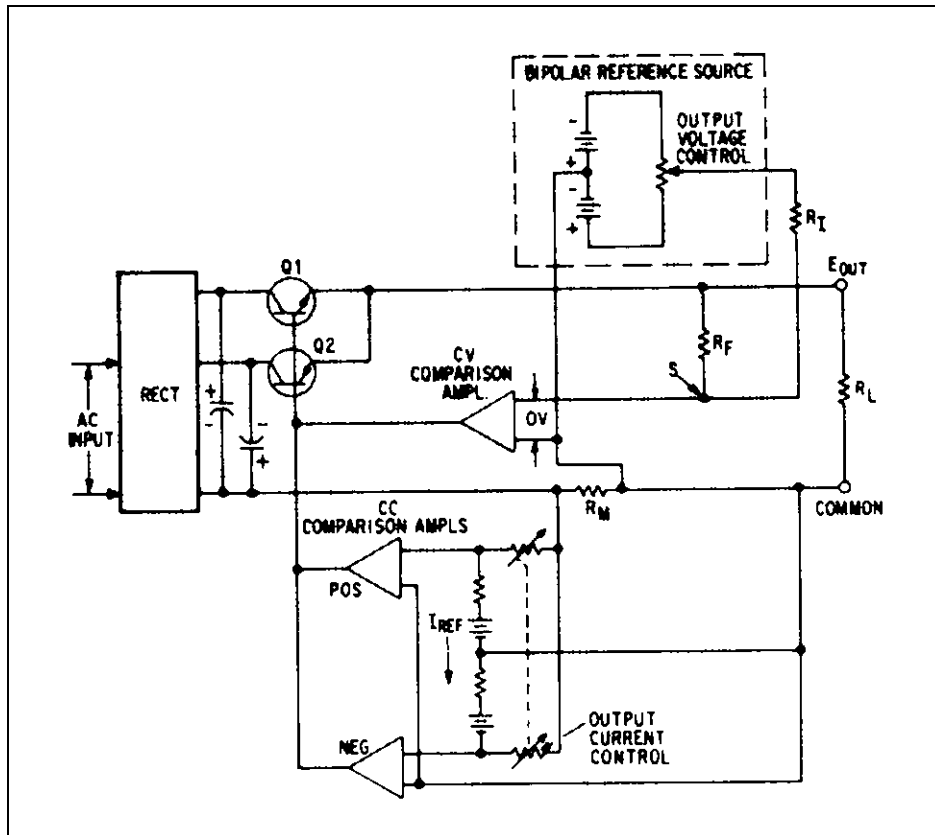
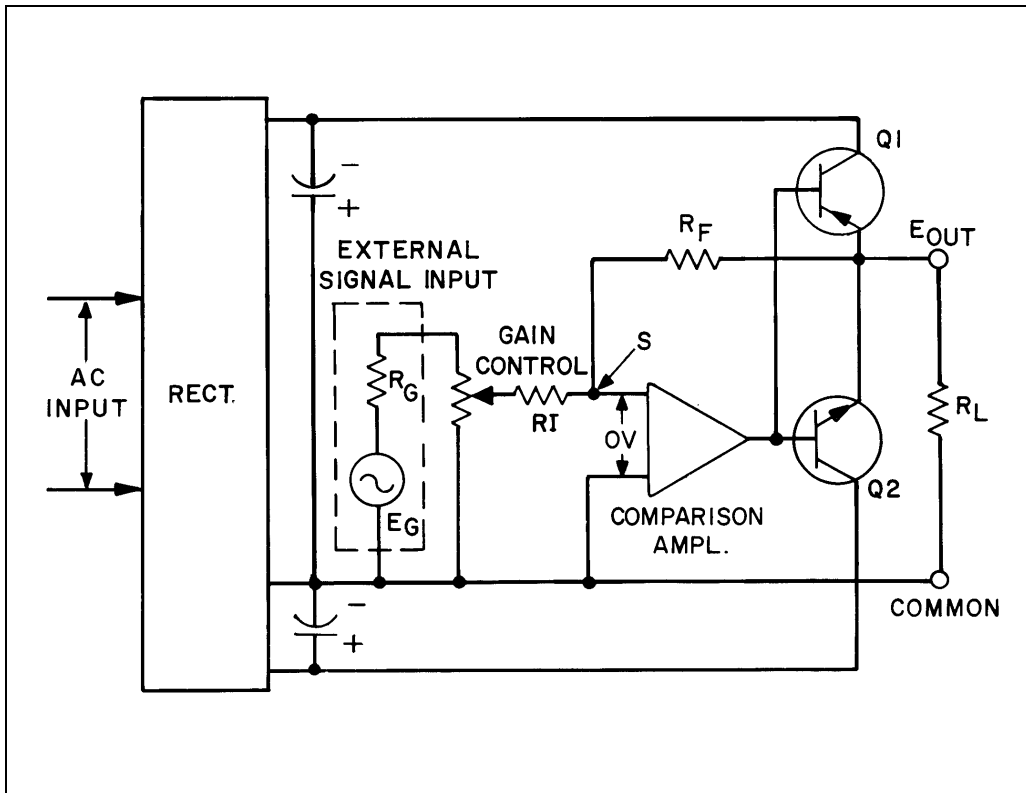

Figure 31. Bipolar Power Supply/Amplifier Drawn as a CV/CC Power Supply.
Figure 32. Bipolar Power Supply/Amplifier Drawn as an Amplifier
Figure 31 shows a simplified representation of the instrument drawn as a CV/CC power supply. Note that this circuit differs from the typical CV/CC power supply of Figure 17 in that:
4. The output capacitor has been eliminated to increase programming speed. Additional modifications, not shown in Figure 31, insure that the power supply will remain stable for capacitive, resistive, or inductive type loads.
Figure 32 shows the BPS/A redrawn as an amplifier. Transistors Q1 and Q2 are arranged in a single-ended, push-pull configuration, and the operational amplifier aspects are more readily suggested by this configuration. For simplicity, the constant current control circuits are not included in Figure 32. In the amplifier mode, the BPS/A controls the gain of an externally applied dc or ac signal. In Figure 32, an external ac input signal has been substituted for the internal bipolar reference supply shown in Figure 31.